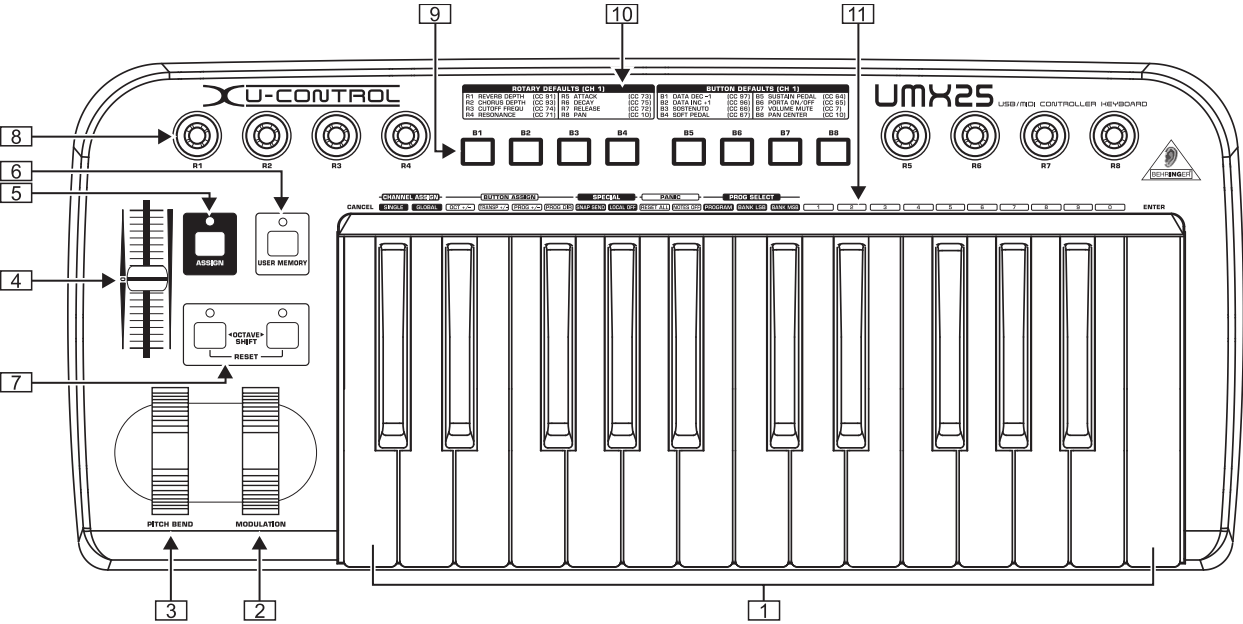

Fig. 3.1: Top view
- ▲ You use the preset controller configuration set in the factory (see fig. 3.1, [10]). In this case, you only need to make the assignments on the receiving device.